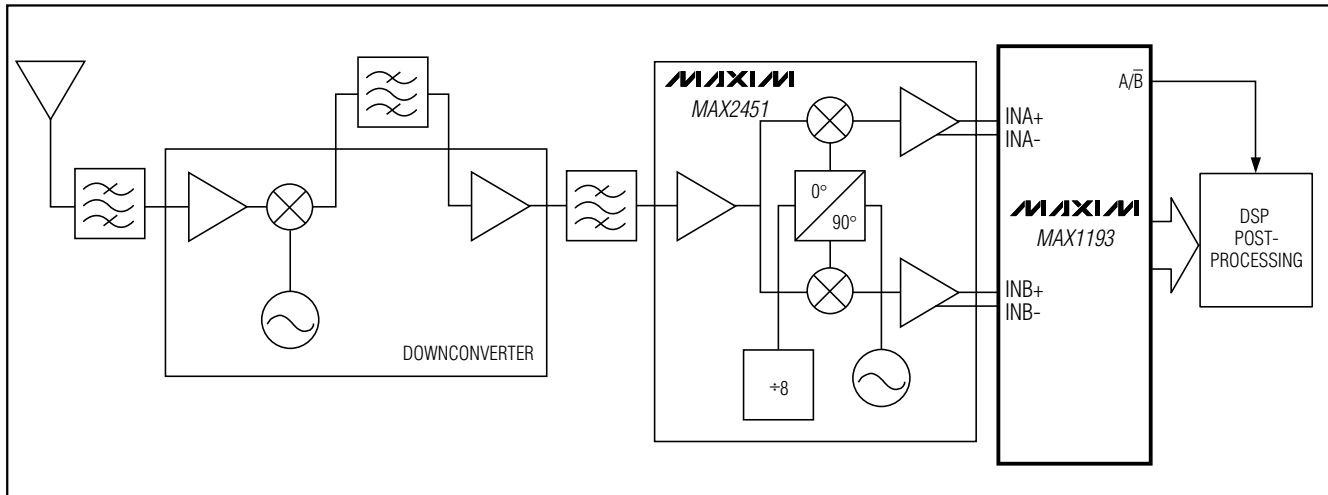

Figure 12. Typical QAM Receiver Application
Quadrature amplitude modulation (QAM) is frequently used in digital communications. Typically found in spread-spectrum-based systems, a QAM signal represents a carrier frequency modulated in both amplitude and phase. At the transmitter, modulating the baseband signal with quadrature outputs, a local oscillator followed by subsequent upconversion can generate the QAM signal. The result is an in-phase (I) and a quadrature (Q) carrier component, where the Q component is 90° phase shifted with respect to the in-phase component. At the receiver, the QAM signal is demodulated into analog I and Q components. Figure 12 displays the demodulation process performed in the analog domain using the MAX1193 dual-matched, 3V, 8-bit ADC and the MAX2451 quadrature demodulator to recover and digitize the I and Q baseband signals. Before being digitized by the MAX1193, the mixed-down signal components can be filtered by matched analog filters, such as Nyquist or pulse-shaping filters. The filters remove unwanted images from the mixing process, thereby enhancing the overall signal-to-noise (SNR) performance and minimizing intersymbol interference.